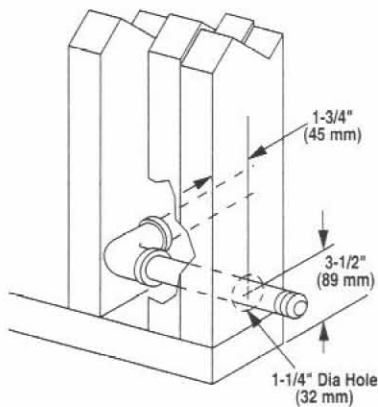

Figure 8
Step 2. Route a 1/2" (13 mm) black iron gas line along the left side framing. Drill clearance hole as shown in *Figure 8*.